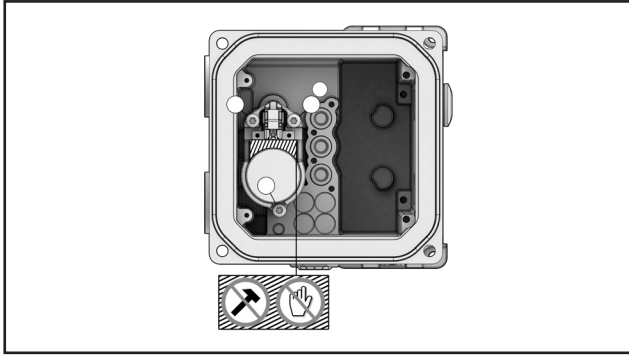

Fig. 80 NDX_511_ and NDX_512_
- Pull out the prestage carefully. It is recommended to use pliers to grab the grooves on the sides of the prestage. Be careful not to touch the moving parts of the prestage. (Fig. 80)